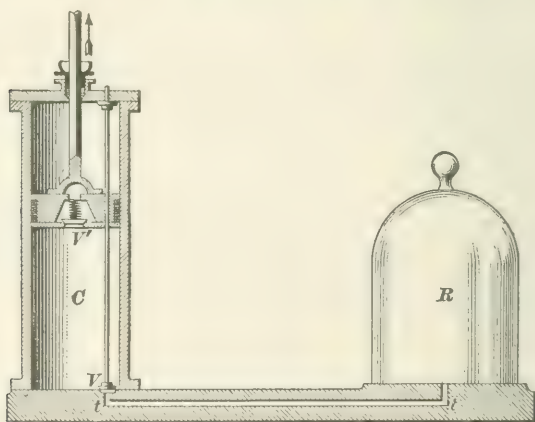
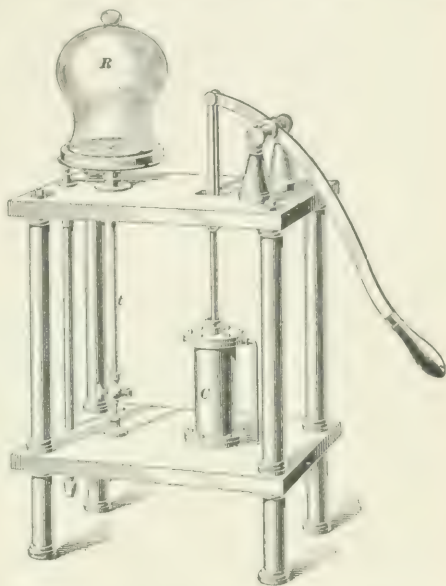

FIG. 19.
FIG. 20.
shown in Fig. 19 and the complete instrument in Fig. 20. The closed vessel *R* is called the **receiver**, and the space
The piston is now pushed down, the valve *V* closes, the valve *V'* opens, and the air in *C* escapes. The lower valve *V* is sometimes supported, as shown in Fig. 19, by a metal rod passing through the piston and fitting it somewhat tightly. When the piston is raised or lowered, this rod moves with it. A button near the upper end of the rod confines its motion within very narrow limits, the piston sliding upon the rod during the greater part of the journey. In the complete form of the instrument shown
in Fig. 20, communication between receiver and pump is made by means of the tube t .
61. Degrees and Limits of Exhaustion.—Suppose that the volume of R and t together is four times that of C , Fig. 19, and that there are, say, 200 grains of air in R and t , and 50 grains in C when the piston is at the top of the cylinder. At the end of the first stroke, when the piston is again at the top, 50 grains of air in the cylinder C will have been removed, and the 200 grains in R and t will occupy the space R , t , and C . The ratio between the sum of the spaces R and t and the total space $R + t + C$ is $\frac{4}{5}$; hence, $200 \times \frac{4}{5} = 160$ grains = the weight of air in R and t after the first stroke. After the second stroke, the weight of the air in R and t would be $(200 \times \frac{4}{5}) \times \frac{4}{5} = 200 \times (\frac{4}{5})^2 = 200 \times \frac{16}{25} = 128$ grains. At the end of the third stroke, the weight would be $[200 \times (\frac{4}{5})^2] \times \frac{4}{5} = 200 \times (\frac{4}{5})^3 = 200 \times \frac{64}{125} = 102.4$ grains. At the end of n strokes the weight would be $200 \times (\frac{4}{5})^n$. It is evident that *it is impossible to remove all the air that is contained in R and t by this method*. It requires an exceedingly good air pump to reduce the tension of the air in R to $\frac{1}{60}$ inch of mercury. When the air has become so rarefied as this, the valve V will not lift, and, consequently, no more air can be exhausted.